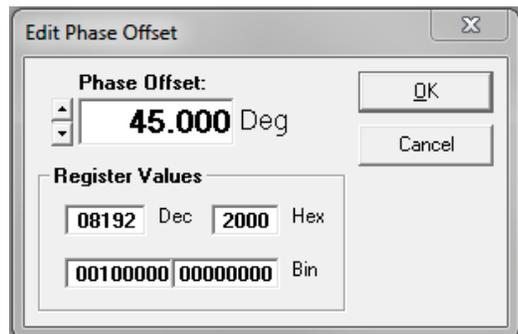

Figure 11. Edit Phase Offset Window
**DDS Phase** controls the output phase in free running mode. Double-clicking on the box holding the value of the **DDS Phase** setting box opens the window shown in Figure 11.